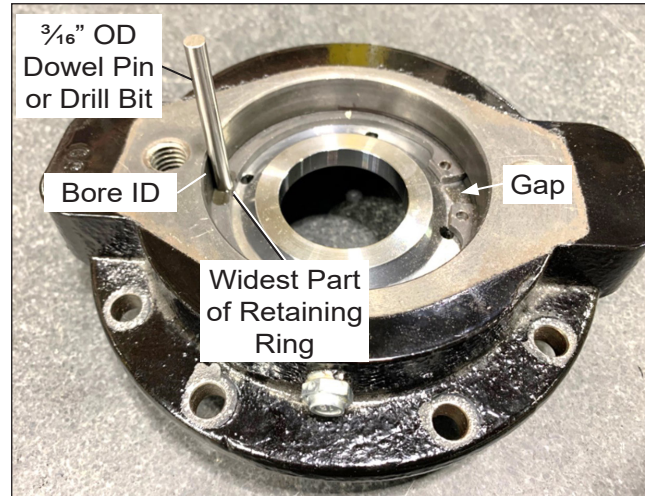

Figure 4 – Positioning Dowel Pin or Drill Bit
8. Place the end of the $\frac{3}{16}$ " x 2" long dowel pin included with this MAB or the flat end of a $\frac{3}{16}$ " drill bit on top of the widest portion of the retaining ring 180 degrees from the gap between the lugs, with the side of pin or bit against the wall of the internal bore in the motor adapter (refer to Figure 4).